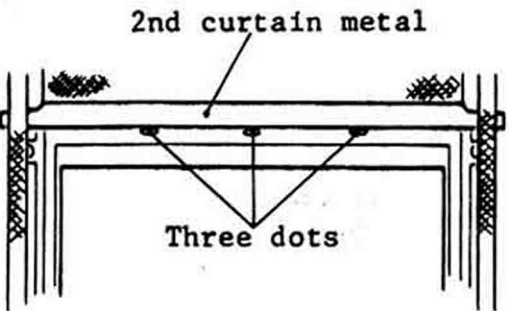

Fig. 25
- a. Bottom line of 2nd curtain metal should be on three dots as shown in Fig. 25.